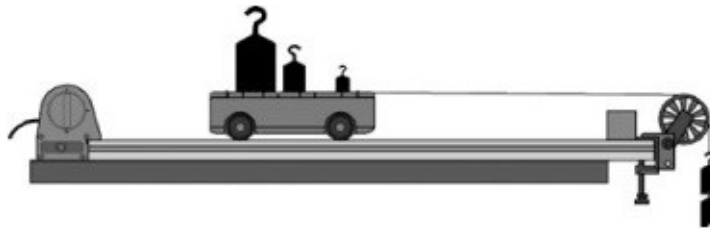
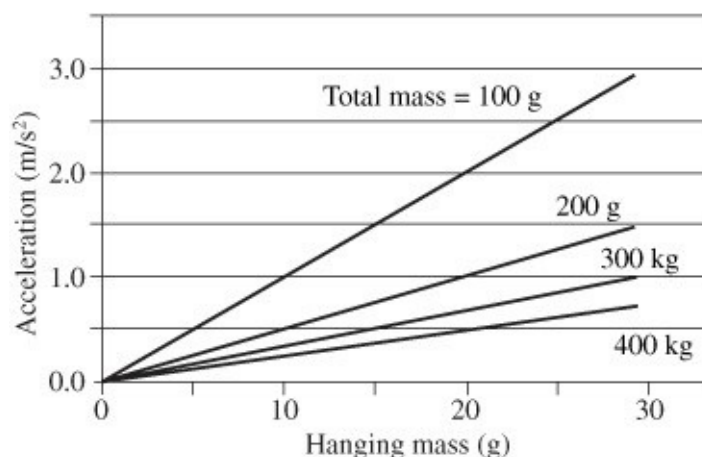

Figure 25-4 Acceleration as a function of the hanging mass. Courtesy PASCO.
Figure 25-5 Predicted acceleration versus applied force for different values of (total) mass.
- Vary the applied force by adding or removing some of the *hanging weight*, but keep the mass in the cart constant, as shown in Figure 25-4.
For a fixed mass in the cart (m_1), the greater the applied force, the greater the acceleration. The expected relationship between acceleration and force is shown in Figure 25-4, which (for simplicity) shows the effect of increasing the hanging mass on acceleration. (The actual driving force is given in newtons, which is simply 9.8 times the mass in kilograms.) Without friction (and to the extent that friction is eliminated from this experiment), this should be a linear relationship as indicated in Figure 25-5.